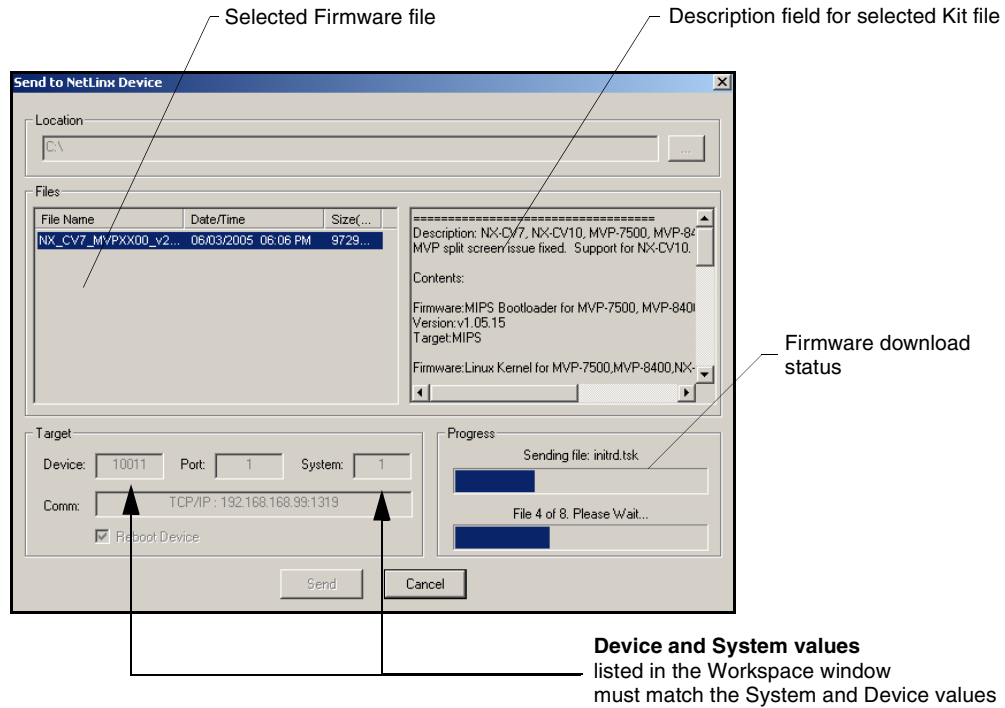

FIG. 52 Send to NetLinux Device dialog (showing Modero firmware update via IP)
6. From within Studio, select **Tools > Firmware Transfers > Send to NetLinx Device** from the Main menu to open the Send to NetLinx Device dialog (FIG. 52). Verify the panel's System and Device number values match those values listed within the System folder in the **OnLine Tree** tab of the Workspace window.
7. Select the panel's Kit file from the **Files** section (FIG. 52).
10. Click **Send** to begin the transfer. The file transfer progress is indicated on the bottom-right of the dialog (FIG. 52).